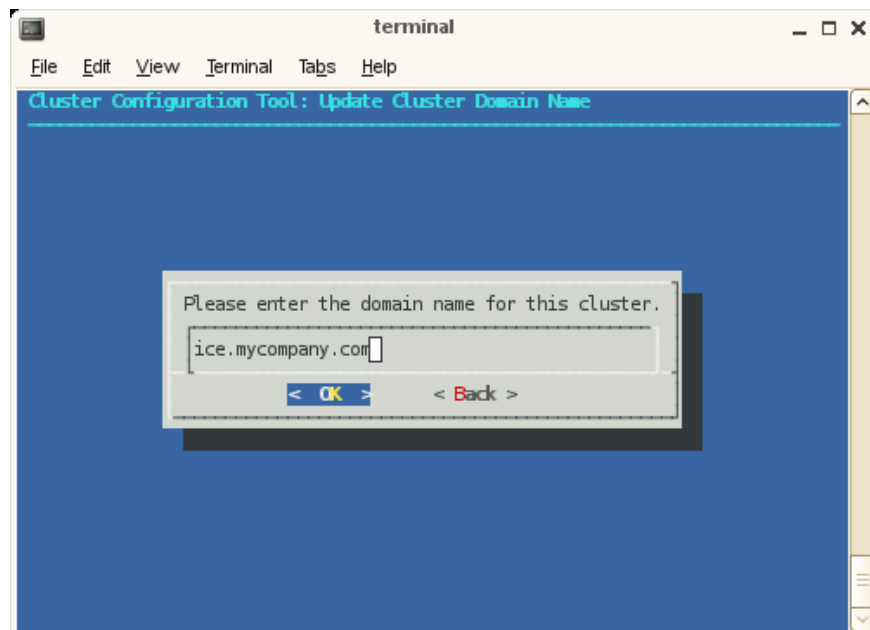

Figure 2-27 Update Cluster Domain Name Screen
12. Enter the domain name for your Altix ICE system, as shown in Figure 2-27 on page 68. Click **OK** to continue (this will be a subdomain to your house network, by default).